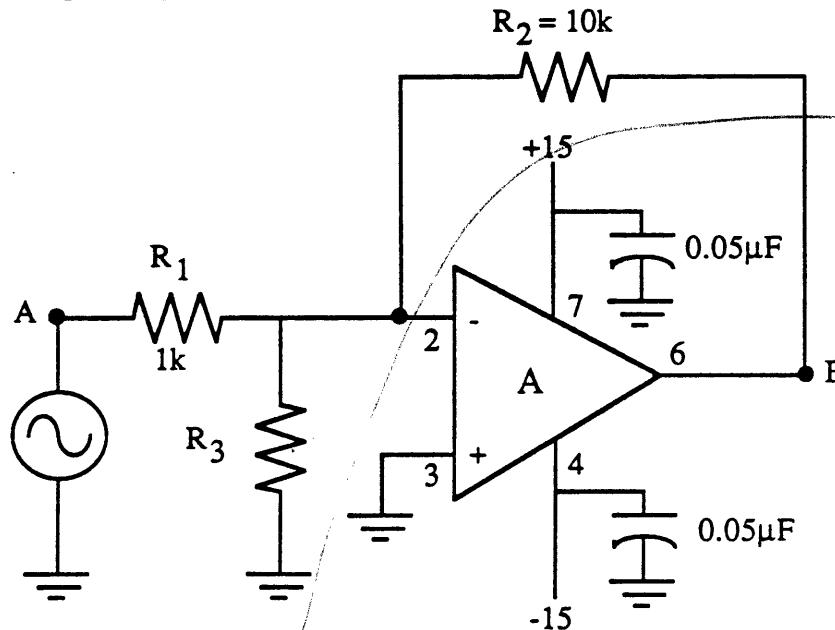

Figure 3 - Inverting Amplifier
- (1) Build the circuit shown in Fig.3, making $R_3=10\Omega$.
- (2) Set the signal generator to a $1 V_{p-p}$ sine wave at 100 Hz.
- (3) Measure the signal amplitudes (peak-peak) at points A and B.
- (4) Increase the signal generator frequency and record in Table 6.8 the frequency for which the signal amplitude at B falls to $0.7 V_{p-p}$. *ie -3db compared to the voltage at B at 1 kHz.*
- (5) Repeat steps 2 to 4 for R_3 equal to 100Ω , $1K$, and an open circuit.
- (1) Replace the LM741 in your circuit of Figure 3. To measure the input offset voltage V_{OS} disconnect the signal generator from your previous circuit. You may also remove R_1 . Change R_2 to $100k$ and R_3 to 100Ω . This results in a very high gain ($\times 1000$) amplifier which will allow us to see the input offset voltage.
- (2) Measure the dc output voltage (at point B) with your DMM and record your results in Table 6.9. Even though the input voltage to the op-amp is zero your
- ★ 6. (a) Prove that for any value of R_3 , the THEORETICAL overall gain (B/A) of the circuit shown in Figure 3 is -10